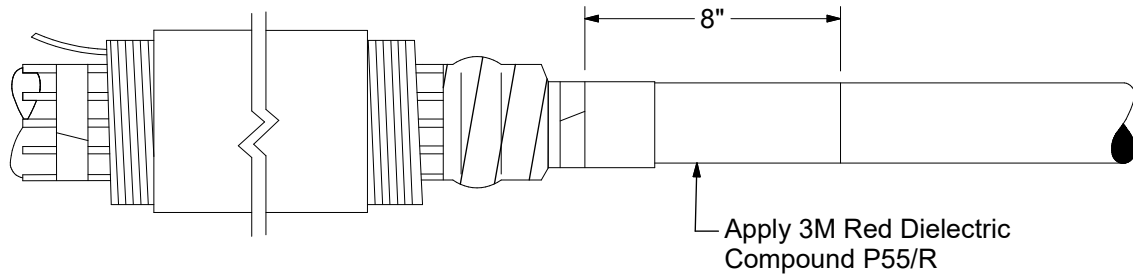

Figure 7
9. Apply 1 tube 3M Red Dielectric Compound P55/R starting at marker tape and continuing onto the cable insulation for approximately 8" (Figure 7)